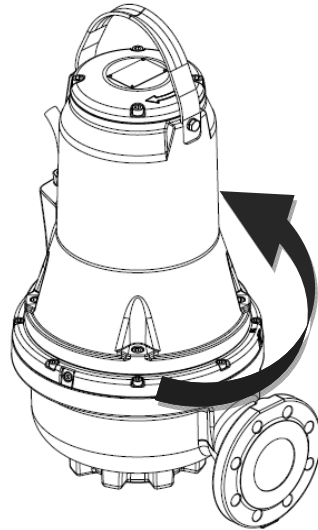

Fig. 10 Jerk direction
2. Start and stop the pump while observing the movement (jerk) of the pump. If connected correctly, the pump will rotate clockwise, i.e. it will jerk counter-clockwise. See fig. 10. If the direction of rotation is wrong, interchange any two of the phases in the power supply cable.